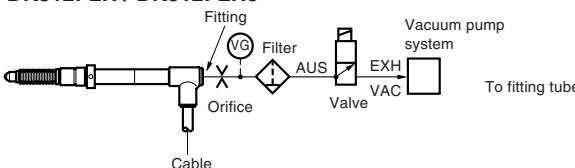
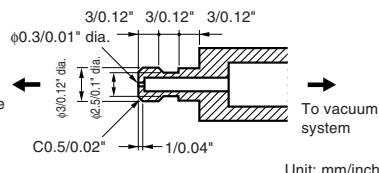

Fig. 1 Air-pass System
Fig. 2 Dimensions of Orifice
- In operating the feeler with a vacuum pump, use such an air-pass system as shown in Fig. 1 to enable air driving. The optimum vacuum rate is 40 to 66.7 kPa. Further, put such an orifice as shown in Fig. 2 on a tube from the air lifter connector to control the air suction and discharge speed. The feeler is lifted at the air discharge to the vacuum pump.